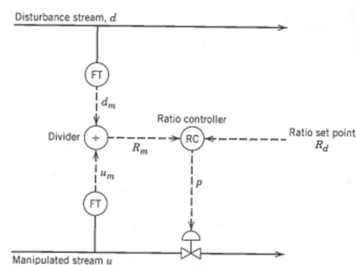

Figure 14.5 Ratio control, Method I.
- Book has some strange suggestions, for example, Figure 14.5